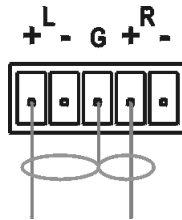

Figure 6: Wiring an Unbalanced Source to a Balanced Input
- An unbalanced source to a balanced input (see Figure 6)
Figure 6 illustrates how to wire an unbalanced source to the balanced input.